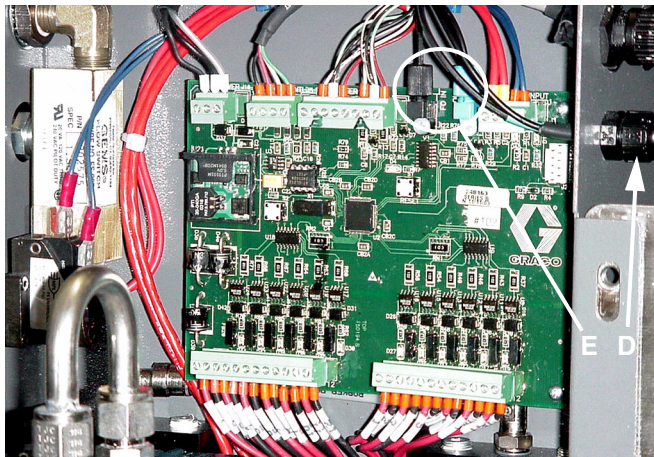

FIG. 16
5. Connect the blue and black cable connectors (E) to the matching connectors on the electrical circuit board. FIG. 16. Insert the cable connectors until they bottom out (approximately ¼" [6 mm]), then tighten the threaded connector.
6. Tighten the strain relief connector (D). FIG. 16.